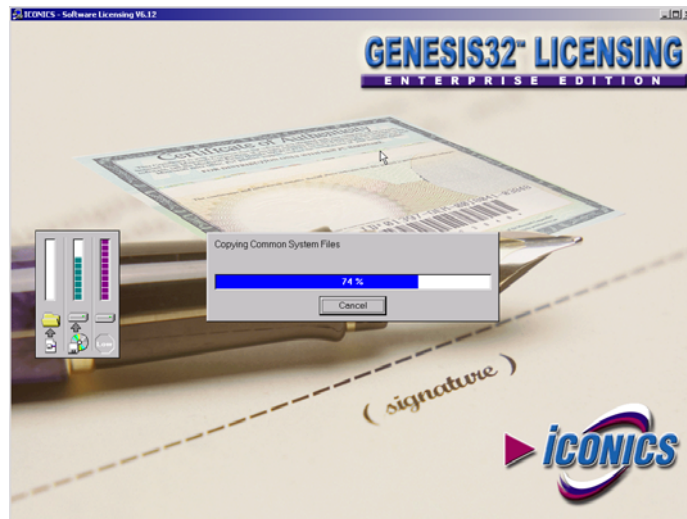

Figure 2.33
9. This will install **ICONICS Licensing Software** on your machine. See **Figure 2.33**.